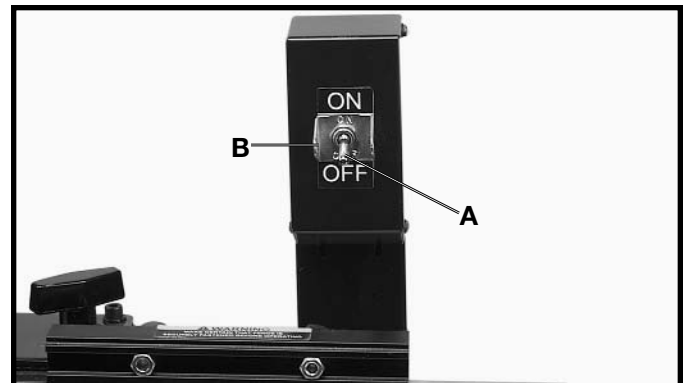

Fig. 19
The start/stop switch (A) Fig. 19, is mounted on top of the switch arm for easy accessibility. To start the machine move the switch (A) to the up "ON" position and to stop the machine move the switch (A) to the down "OFF" position.